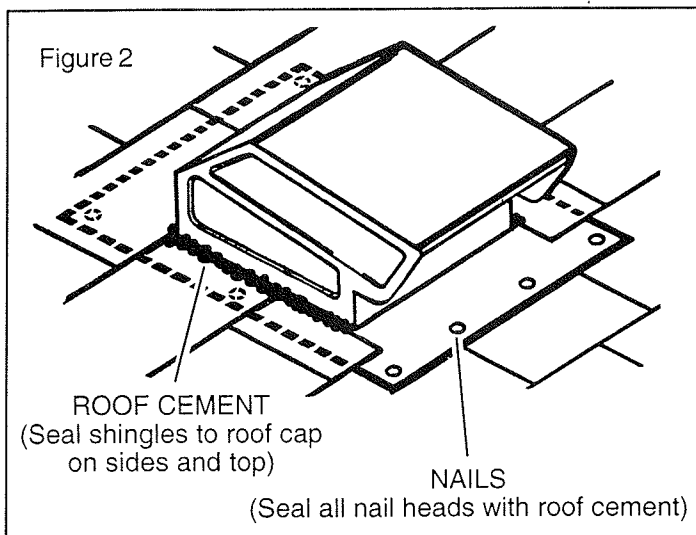

Figure 2
4. Carefully lift shingles and slide back flange of roof cap under shingles. Nail flange to roof under shingles at top two corners and two sides. Nail directly to roof in four places at bottom. (Figure 2)